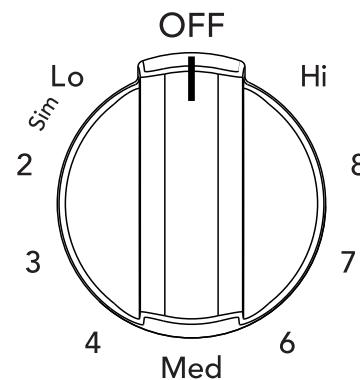

Figure 7: Single element knob
2. Push in and turn the surface control knob in either direction (Figure 7) to the desired setting (refer to the "Suggested radiant surface element settings" in Table 1).
Start most cooking operations on a higher setting and then turn to a lower setting to finish cooking. The surface control knobs do not have to be set exactly on a particular spot. Use the graphics provided as a guide and adjust the control knob as needed (see Figure 7).